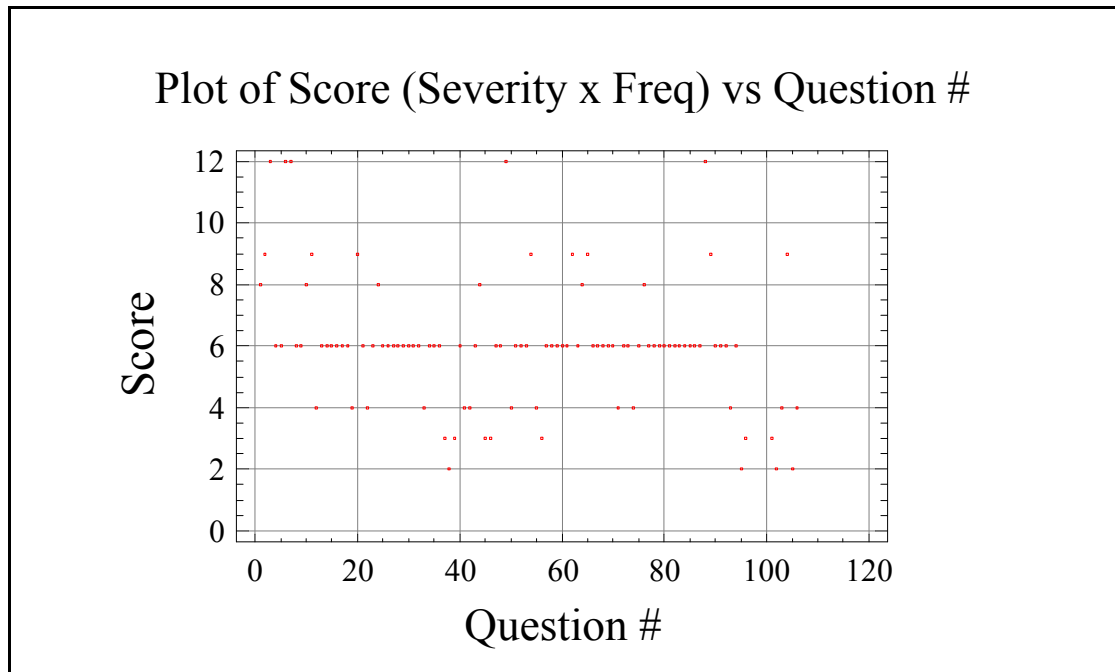

Figure 4 Scatter Plot of PM Undesireable Effects Scores (Severity x Freq)
- d. **Figure 4** shows the scores for each of the individual questions. The five items scoring 12 (and therefore are above the threshold action point) can be easily seen. These are the four items mentioned above in the Executive Summary for suggested improvement.